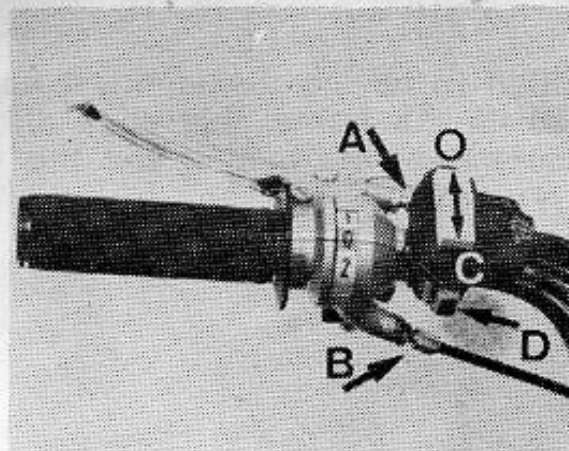

Fig. 4
In all of the 2 speed CASAL vehicles, the gear selector is of the hand grip type, situated on the left hand side of the handlebars. (Fig. 4).
The clutch is brought into play by the action of the clutch lever situated on the left hand side of the handlebars. There should exist a play of 5 to 8mm and can be adjusted by A (Fig. 4). To bring the clutch into action, squeeze the clutch lever on the handlebars. For correction in the adjustment of the gears, use the adjustor B (Fig. 4).
The «O» mark shown in (Figs. 4) and (5), marks the position of neutral which occurs between 1st and 2nd gears.
LIGHT SWITCH (Fig. 4)
The horn may be sounded by pressing button «D» (Fig. 4).
The CASAL motor is equiped with constant mesh gears in the wedge formation. The gear selection is made with the help of a mobile shaft which causes 4 ball bearings mounted on the gear shaft, to engage the respective gear. The gear selector is brought into play by the lever (Fig. 9) which in turn is activated by a steel cable connected to the twist grip on the handlebars (Fig. 4).